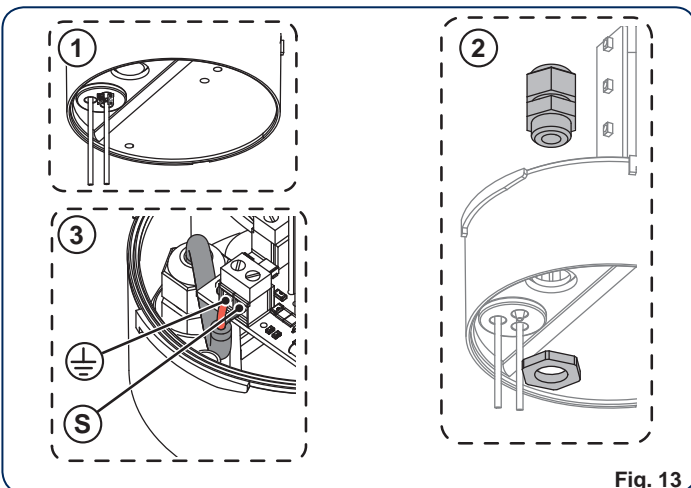

Fig. 13
- Make a Ø 12.5 hole in the cover support (Fig. 13 ref. ①).
- Install an M12x1.5 (or PG7) cable runner, not supplied, as shown in figure 13.
- Insert the antenna cable and connect it to the dedicated terminals precisely as shown in figure 13.